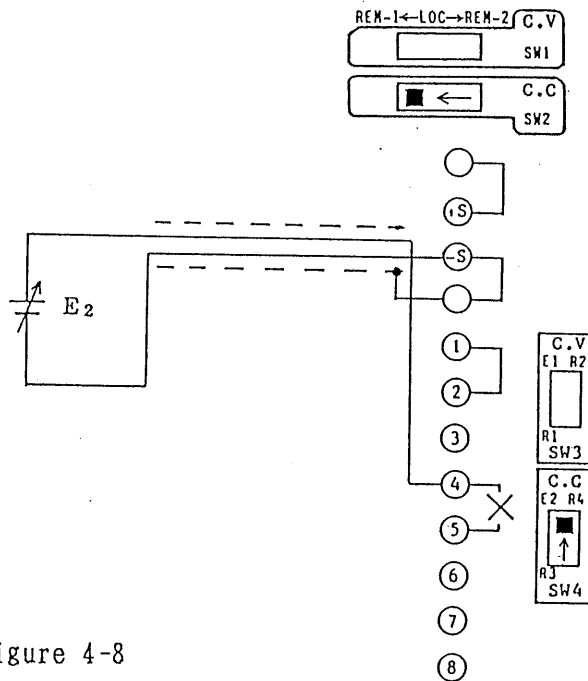

Figure 4-8
- (1) Turn off the POWER switch.
- (2) Throw the SW2 switch of the rear panel to REM-1.
- (3) Throw the SW4 switch of the rear panel to E2.
- (4) Disconnect the jumper from between terminals ④ and ⑤ of the rear terminal block.
- (5) Connect the remote control voltage (E2) to between terminals ⑤ and ④, with terminal ④ for the positive polarity line.
- (6) Connect an ammeter (a shunt resistor) between the OUTPUT terminal.
- (7) Turn on the POWER switch. (Turn on the OUTPUT switch.)
- (8) Adjust offset (at zero amperes) with the A.os control of the service panel.
- (9) Regarding the switches for which no settings are specified in Figure 4-8, set them to the standard states as shown in Figure 2-25 (See Section 2.4.) or to appropriate states for respective modes (See Sections 4.1 through 4.11.).